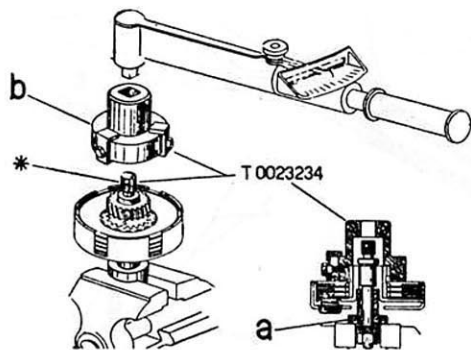

Fig. 82
- Secure the clutch assy. in a vice by means of the pin (component No. 2 of tool T. 0023234, shown with an asterisk on Fig. 82) and the bush "a".